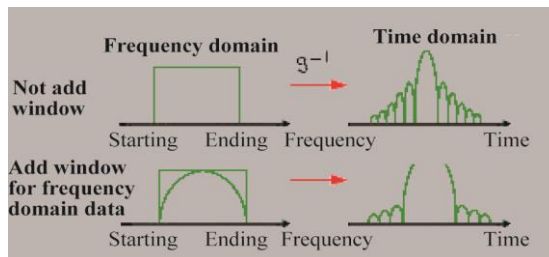

Fig. 2.7 Suppressing side lobe using window filtering
- 2) **Impulse response side lobe:** This is caused by abrupt changes at the termination frequency. Side lobe adjacent to the high level response hide the low level response signal, limiting the dynamic range of the time domain measurements. Side lobes can be suppressed using window filtering, as shown in the Fig. 2.7: